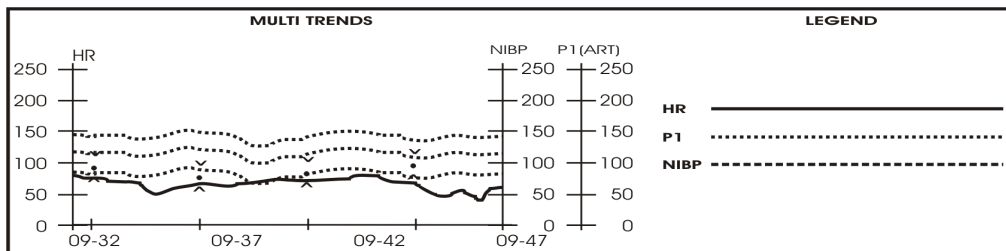

Figure 5-9. Sample Multi Trends Printout
- e. **RECORD.** Selecting the **RECORD** menu option will print a strip (See Figure 5-9) containing multiple parameters as selected by the operator using the **SELECT** menu option in the **MULTI TRENDS** Menu. Since the printer is black and white only, a legend is provided on the right hand side of the strip that allows the operator to distinguish between the selected parameter waveforms on the printout.
- (1) **NIBP Trend Printout.** (See Figure 5-9) Since NIBP is not a continuous reading system, when selected the NIBP Trend Printout is different from the other trend printouts. The NIBP Trend Printout consists of a set of three symbols shown positioned at the time location when the reading was performed: the top symbol is a V and indicates the NIBP Systolic Value, the middle symbol is a black dot and indicates the NIBP Mean Value, the bottom symbol is an upside down V and indicates the NIBP Diastolic Value.